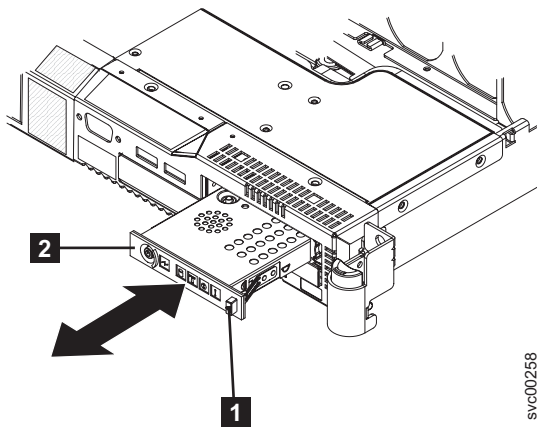

Figure 226. SAN Volume Controller 2145-8G4 operator-information panel
2. Slide the operator-information panel into its cage, as shown in Figure 226, until it locks in place with a click (in the In position); gently pull the cable through at the back as you do this.